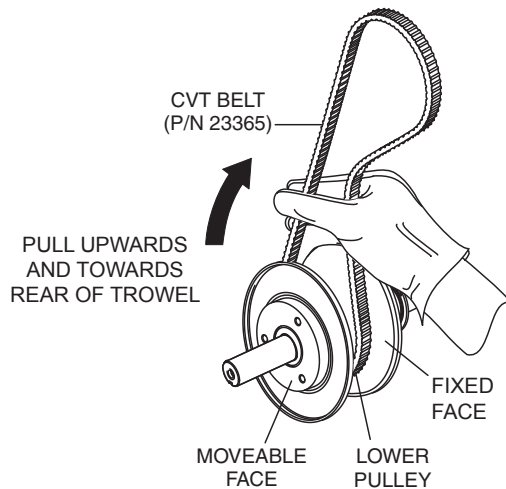

Figure 35. Holding Lower Pulley Open
1. Place the new CVT belt over the lower pulley (Figure 35). Squeeze and pull the belt upwards and towards the rear of the trowel. This will spread open the faces of the lower drive pulley.